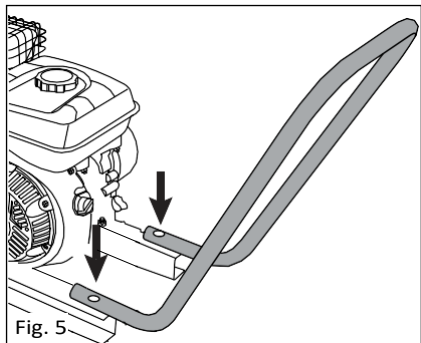

Fig. 5
- Place the transport handle (7) on the base frame (9). Align the holes in the handle (7) and the base frame (9). From the handle assembly fasteners (20), insert each bolt with washer from the top. Secure in place with nut (fig. 5,6).